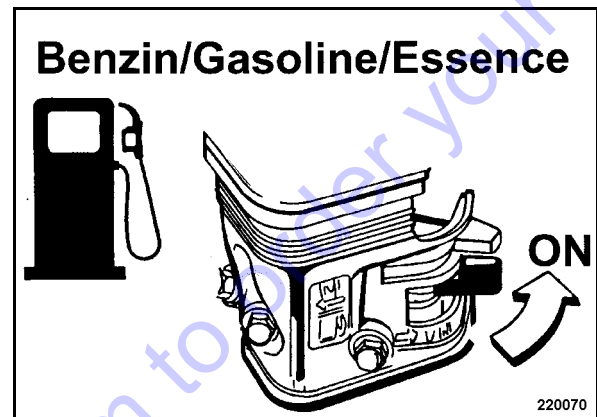

Fig. 40
- Open the fuel tap (Fig. 40) by turning in direction of arrow.